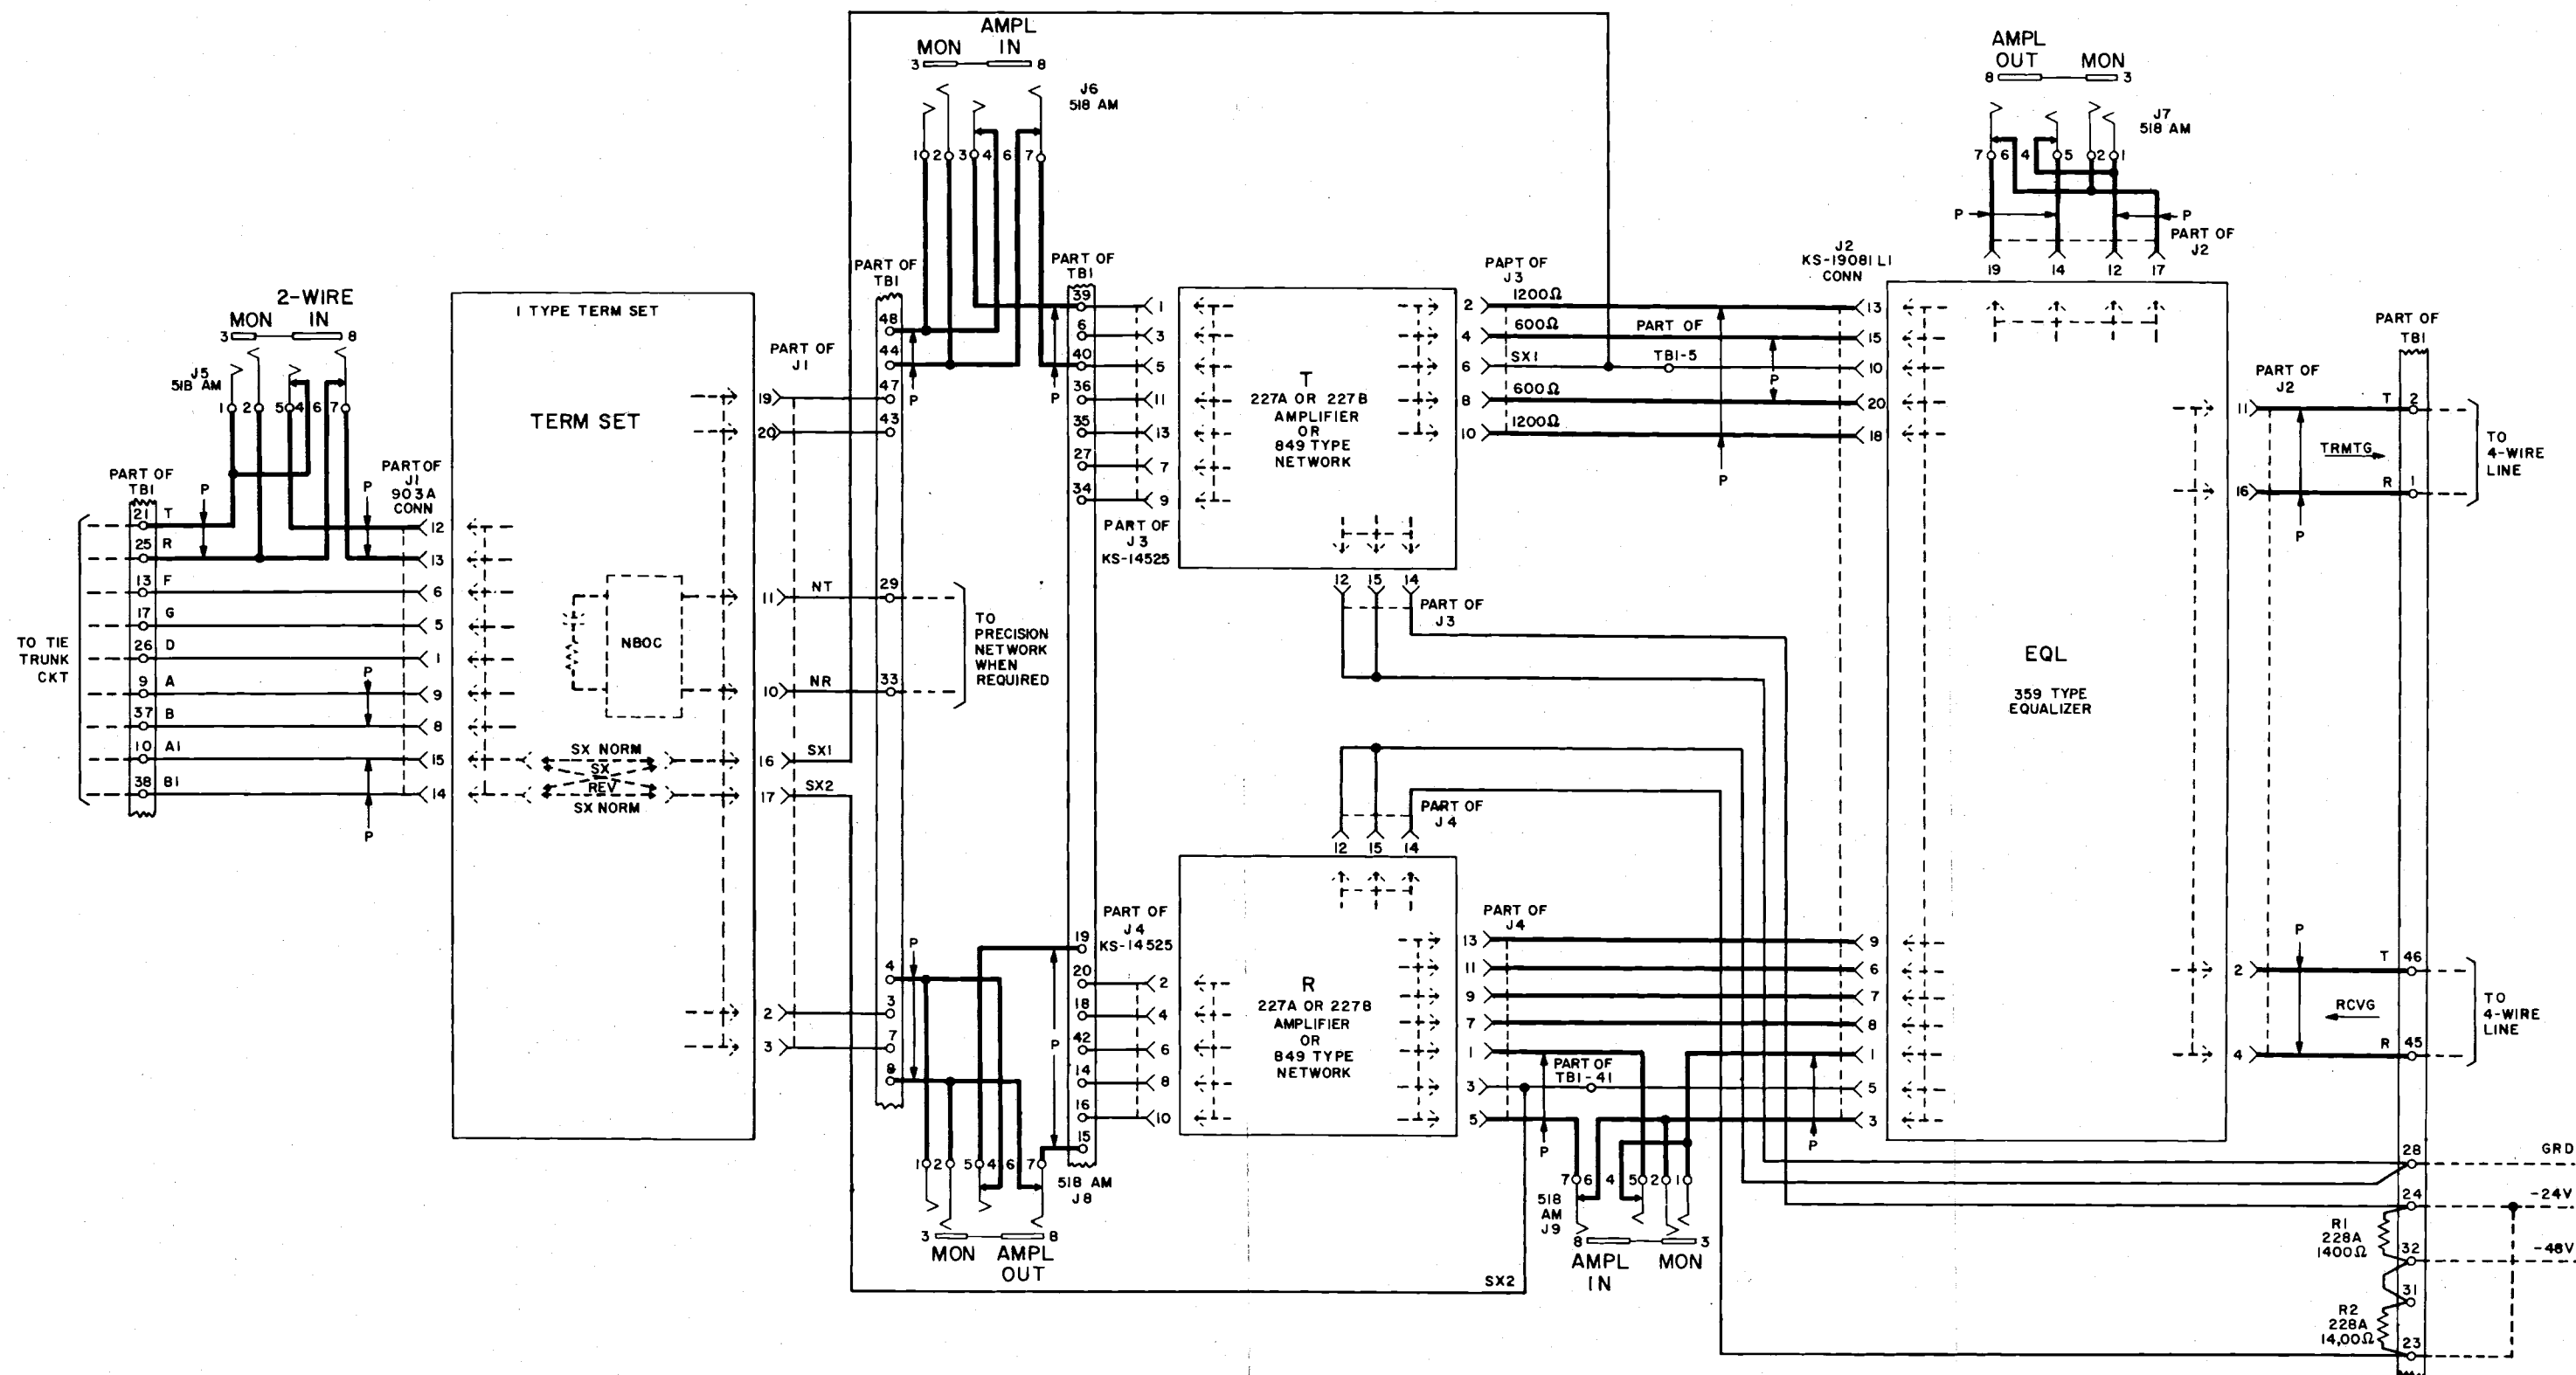

Fig. 4—24V4B Telephone Repeater Connecting Circuits and Battery Supply
2.02 Strapping information for specific circuit arrangements is shown in Tables A through D. Strapping shown in Table A is for the standard 24V4B circuit which is electrically the same as the 24V4A circuit. To use a terminating set without amplifiers, use strapping in Table B. For circuits without terminating sets and requiring one amplifier only, refer to Table C or D. For circuits without terminating sets and requiring two amplifiers, refer to Tables C and D. (See Fig. 4 for repeater schematic.)